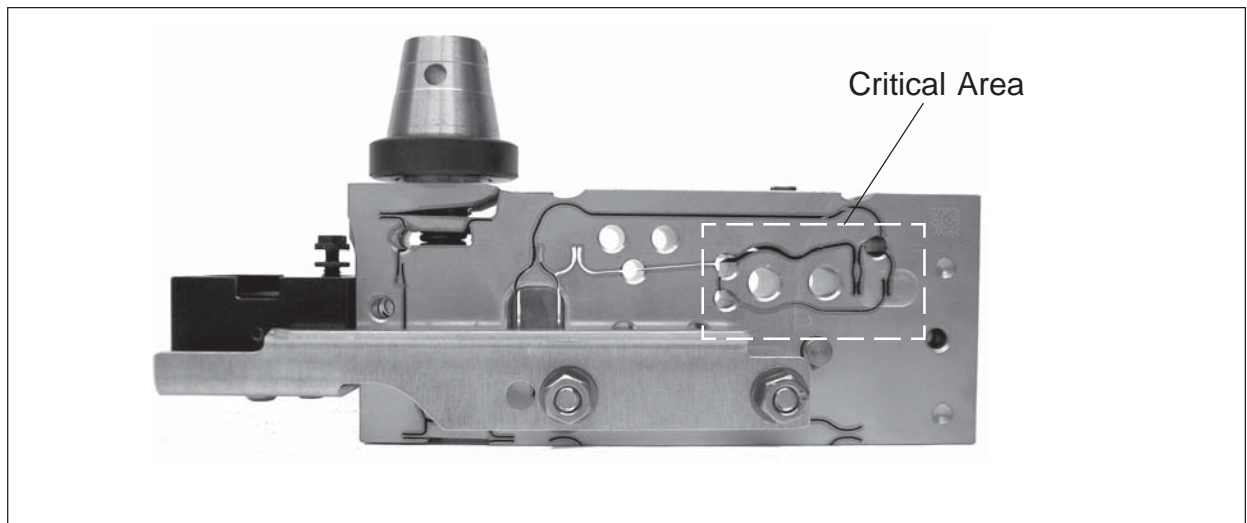

Figure 3-58. Load Cell Critical Area.
2. Refer to Figure 3-58 and examine the load Cell slotted areas and make sure all areas are clean and free of debris. Hold the Load Cell up to the light to see into the slotted areas. If dust or dirt appears in any slotted area, use canned pressurized clean air that is normally used for cameras and gently blow out any dirt. Use extreme care. Critical area is shown in Figure 3-58.